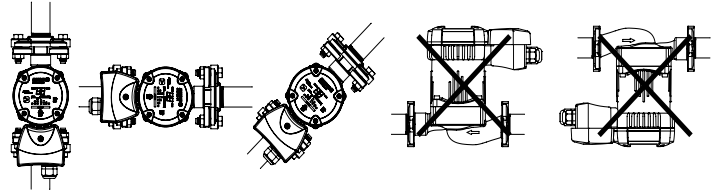

FIG. 2 Mounting the Armstrong Compass H
- 2 Install the pump with the motor shaft horizontal (see **FIG. 2**).